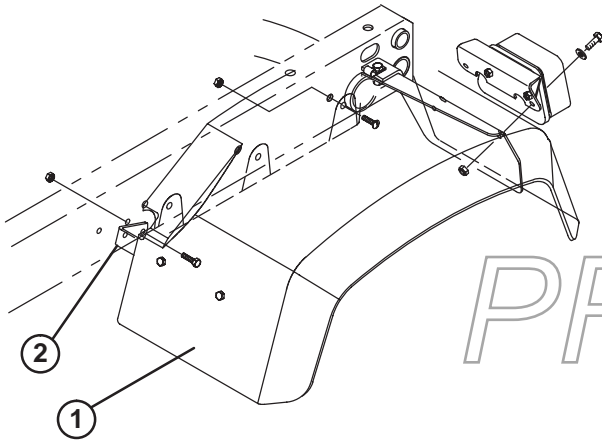

Figure 2
4. On left side, remove (2) cap screws, washers and nuts securing tail light mounting bracket to tail light plate (Fig. 2).